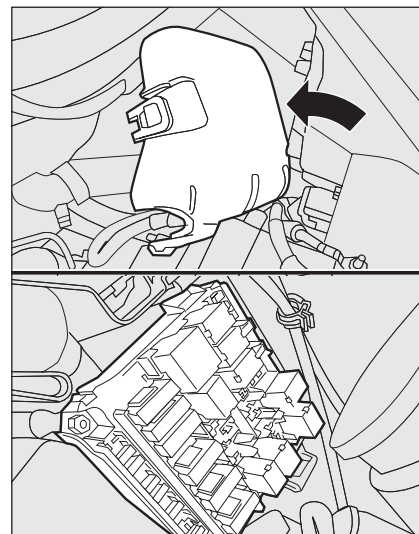

fig. 49
- ☐ move the lid towards the headlight by turning it anticlockwise (as shown by the arrow). Then, remove it, **fig. 49**.